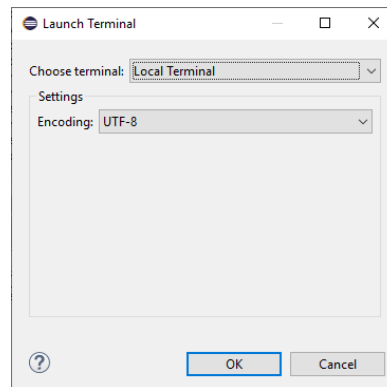

Figure 11 Terminal configuration
- Click menu “Windows -> Show View -> Terminal”. A new “Terminal” tab will show up. Then click the “Open a Terminal” icon on the right side and click “OK” button as shown in Figure 11.